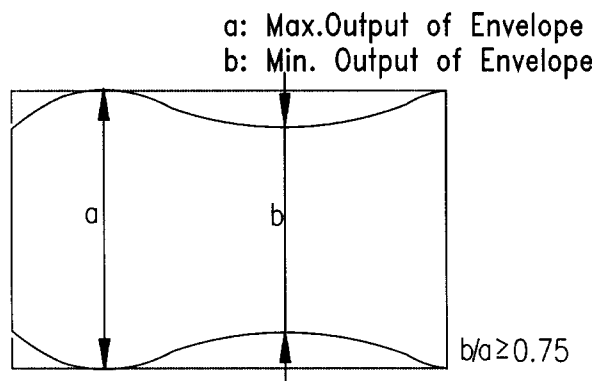

Fig. 15 Linearity Adjustment
Linearity Adjustment (Fig. 15)
5. Adjust the VR Control on the Path Adj. Fixture so the envelope (FM) signal of the Alignment tape is maximum.
6. Adjust the S/T guide rollers so that the envelope (FM) signal waveform at the entrance and exit sides are as shown in Fig. 15.